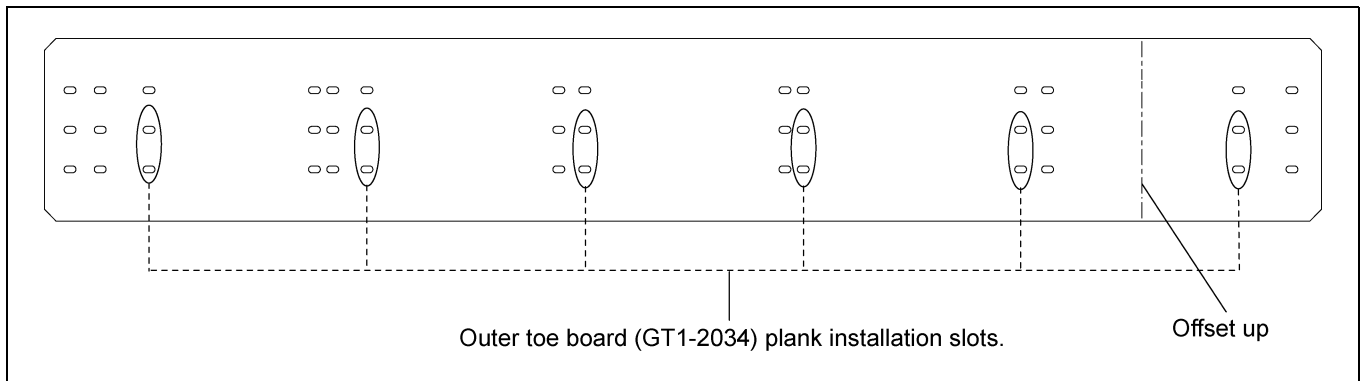

Figure 4S 30' Outer Toe Board (GT1-2034)
3. Outer toe board (GT1-2034) is aligned and attached to the planks with the corresponding slots as shown in Figure 4S.